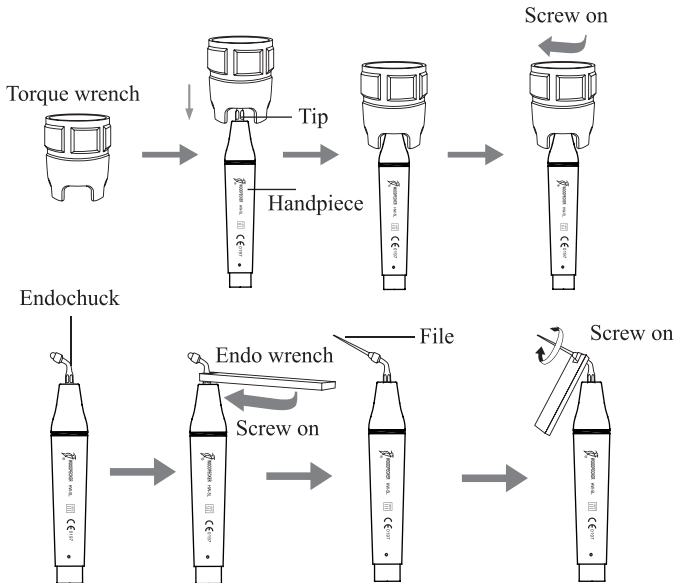

Figure 6
i) Select a suitable scaling tip as you need, screw it on the handpiece tightly by the torque wrench (See Figure 6).
2.1.3 Instruction of torque wrench (See Figure 6)
① Take the scaling tip into the torque wrench, operate as showed in figure 6.
② Tip installation: Hold the handpiece, turn the tip toward direction as showed in figure 6 with the torque wrench. Turn one more circles when the tip stops, then the tip is installed.
③ Tip uninstallation: Hold the handpiece, turn the wrench toward anti-clockwise direction.
④ Sterilize it in sterilizer after each treatment.
⑤ The torque wrench must be cooled naturally after sterilization to avoid scald when using next time.
⑥ Keep the torque wrench in a cool, dry and ventilated place and keep it clean.
- a) Fix endochuck to handpiece by endo wrench (See Figure 6).